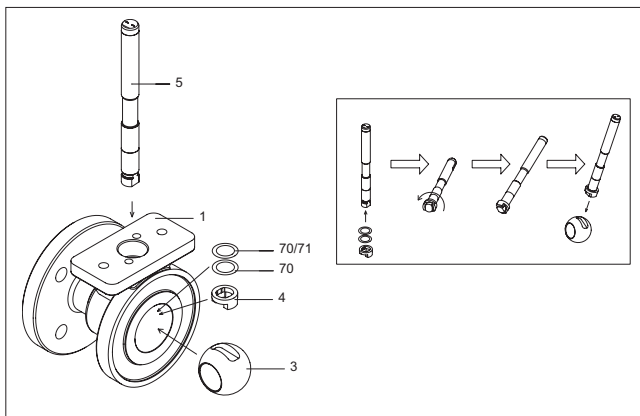

Fig. 25 Assembling the shaft in sizes 1" and 1.5"
- Place the locking wire (51) in the stem groove (5) in sizes DN 50/2"-DN 200/8". Place the stem partly inside the body from above and place the thrust bearings (70) on the stem from inside the body. Place the thrust bearings against the stem shoulder and place the stem in the valve from inside. Place the spline driver (4, sizes DN 50/2"-DN 200/8") on the shaft spline and lock it with a pin (50). Place the thrust ring (4, sizes DN 25/1"-DN 40/1.5") on the shaft and lock it as illustrated in Fig. 25. Put the ball (3) in its position so that the spline driver / thrust ring (4) is in the ball slot. Screw down the studs (14). Place the support ring (67, sizes DN 50/2"-DN 200/8"), the packing (69), the gland (9) and the retaining plates (42) in their position. Place the nuts (18) on the studs (14) and screw down them gently.